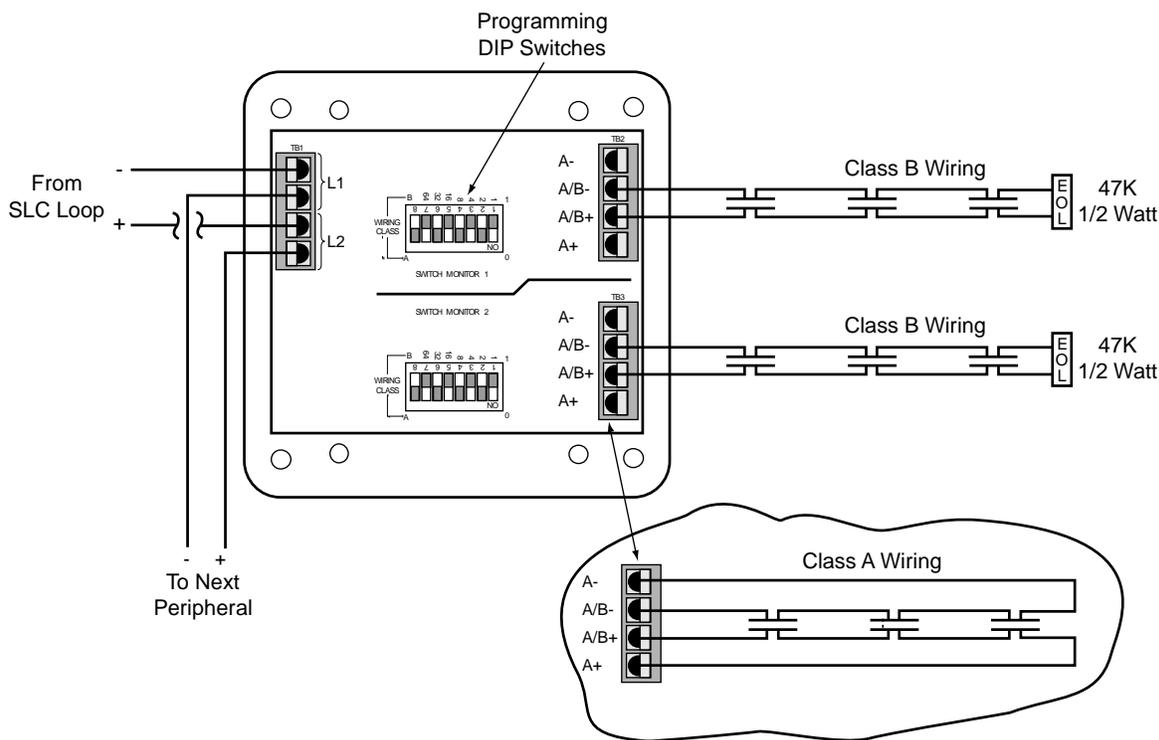

Figure 11 - S-A4042 Wiring
Incorporated with each individual IDC circuit is a built-in priority interrupt feature which allows rapid response capabilities from highly critical contact devices (e.g., manual pull stations, etc.). Two (2) eight position programming DIP switches are provided on each Dual Switch Monitor Module for IDC circuit addressing and wiring classification definition. The S-A4042 mounts to the front of a standard 4" square or 2-gang electrical outlet box. Displayed on the front of each S-A4042 is two (2) red status LEDs which flash when the individual address is polled and illuminate steady when the IDC circuit is active (see figure 11).